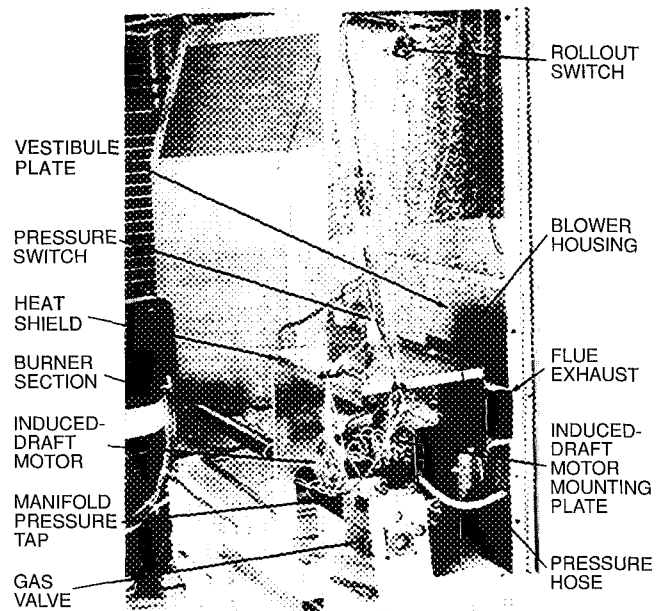

Fig. 38 — Burner Section Details
4. Remove the 7 screws that attach induced-draft motor mounting plate to blower housing (Fig. 38).
REMOVAL OF GAS TRAIN (Fig. 38 and 39)
REPLACEMENT OF GAS TRAIN (Fig. 38 and 39)